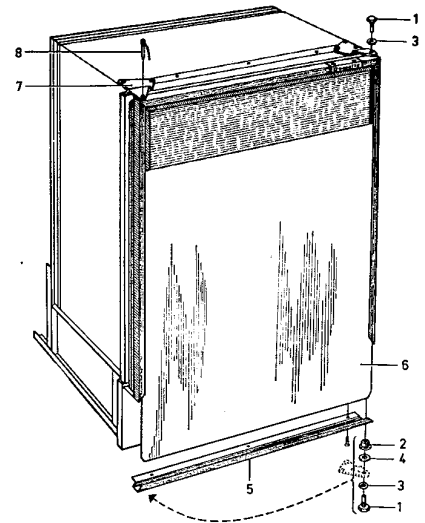

Fig. 50
Unscrew the upper hinge pin (1, fig. 50). Remove the hinge pin and lift off the door. Back off the screws holding the lower aluminium trim moulding (5) in place. Withdraw the door panel (6), reverse it and reassemble, finally fitting trim moulding and door back in position.
Unscrew the hinge pins (1, fig. 50). Transfer the nylon bushing (2) and washers (3, 4) in the right order to the opposite side. Then fit the hinge pins to the opposite hinge plate (7). Transfer the locking pin (8) and chain, used when the caravan is in motion, to the opposite hinge plate.